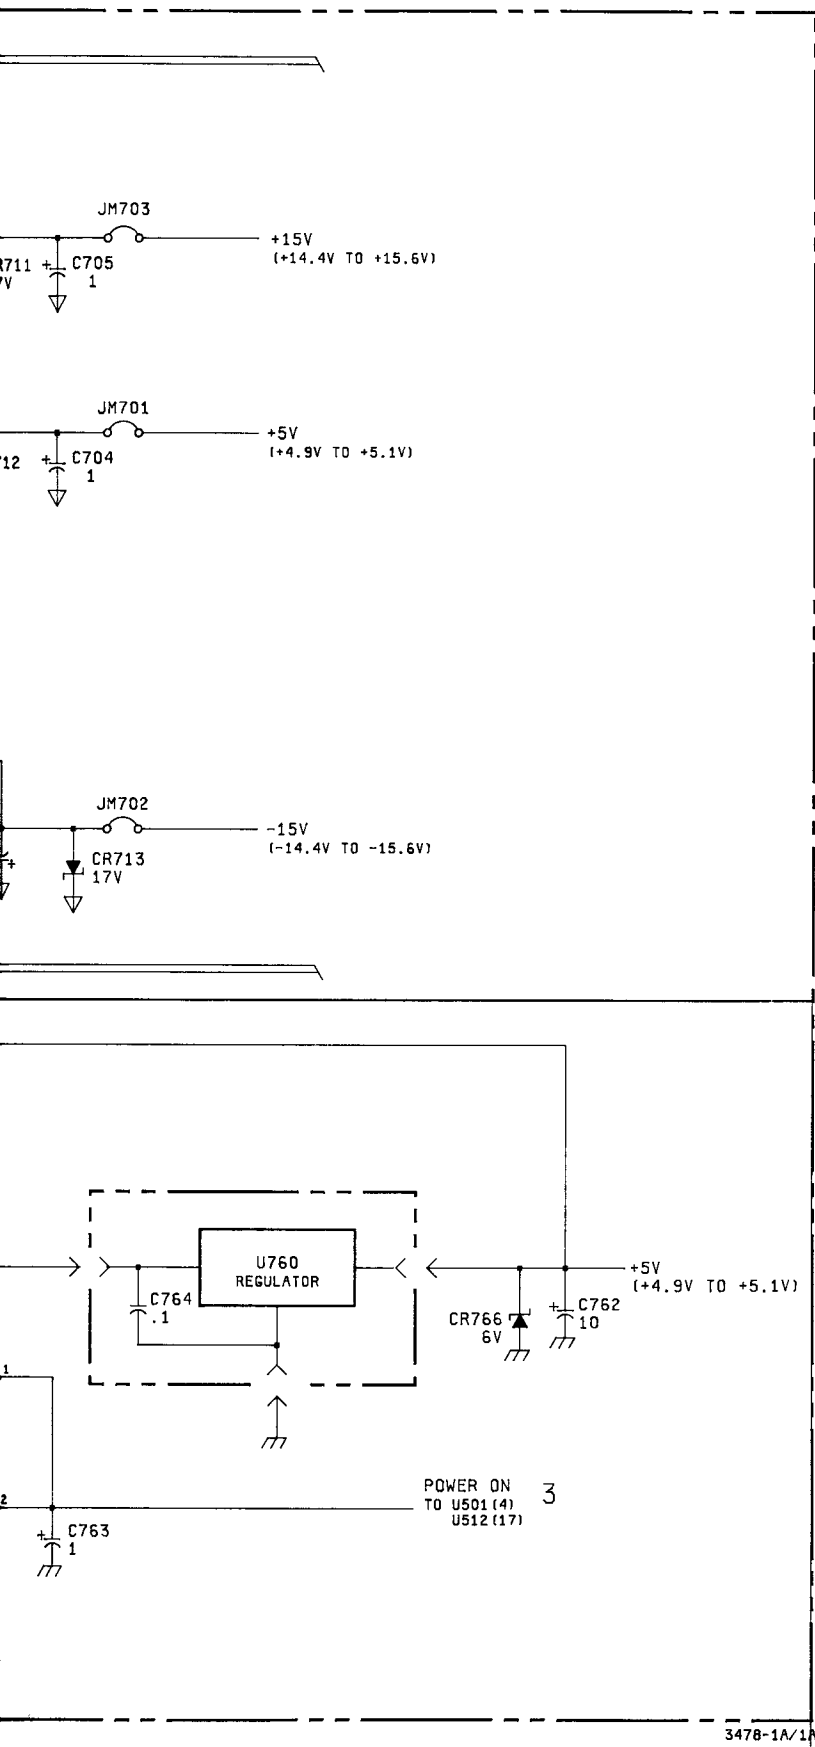

Figure 6-2. Schematic 4 (Revision B Boards)
c. Schematic 4. Revision B changes for Schematic 4 are shown in Figure 6-2.